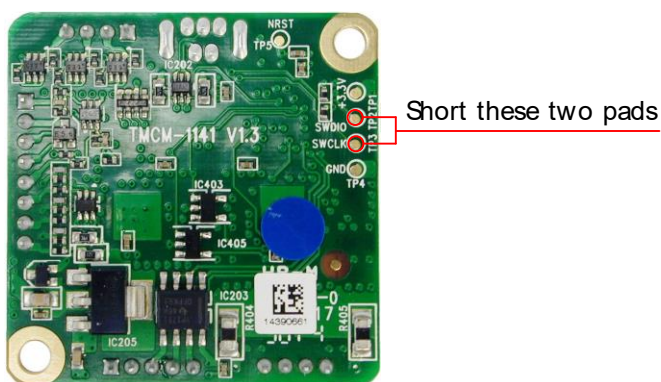

Figure 5.1 Reset to factory default settings
2. Short two pads as marked in Figure 5.1